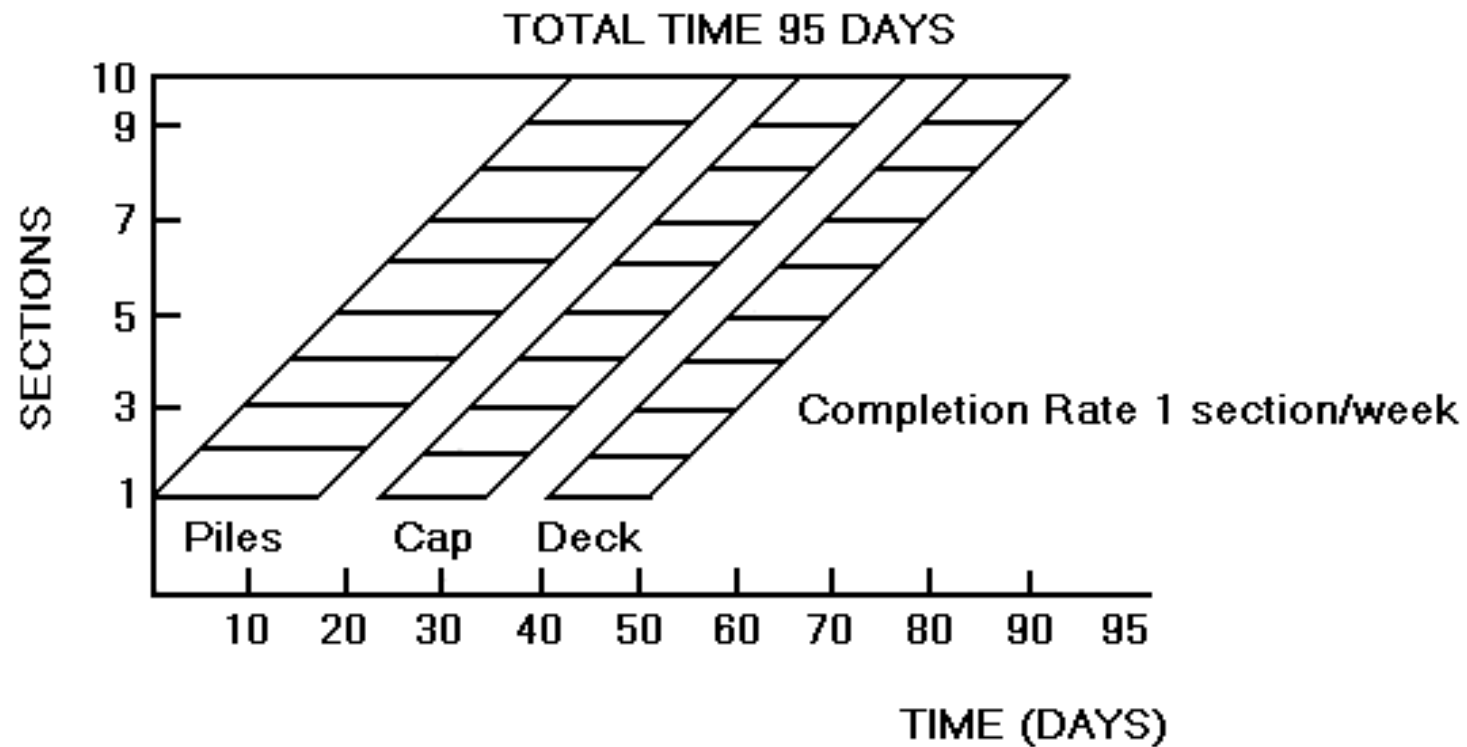

Figure 2.16 Logic diagram for each section added to the completion schedule
- Establishes LOB schedule, provided sufficient resources available to maintain production – crews must be available to start at scheduled start dates on each section → velocity diagram (Figure 2.16)
Rate assumed in Figure 2.16
Team 'a' starts on section 1 of Pile Cap on day 23 and finishes on day 35 (12 days) (Figure 2.16).